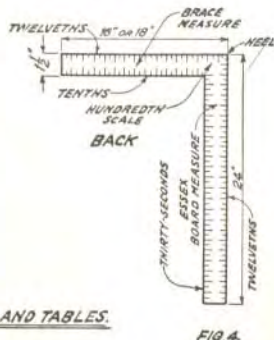

FIG. 4.
5. **BACK.** The Back is the side opposite to the face. Fig. 4.